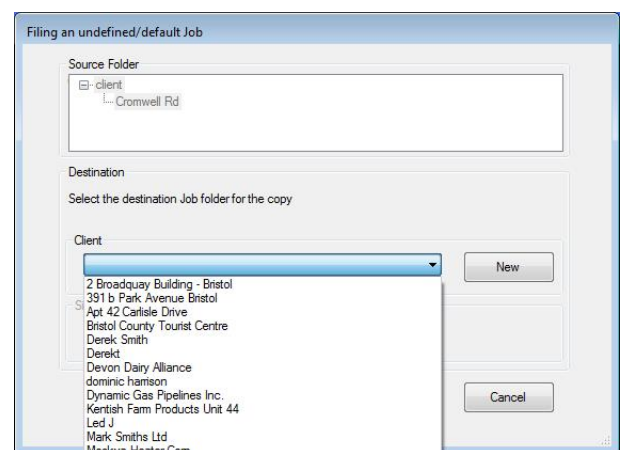

Figure 3.13 Selecting a client
2. Select Copy or the right button on your mouse and the Default Copy screen will appear (see Figure 3.13).